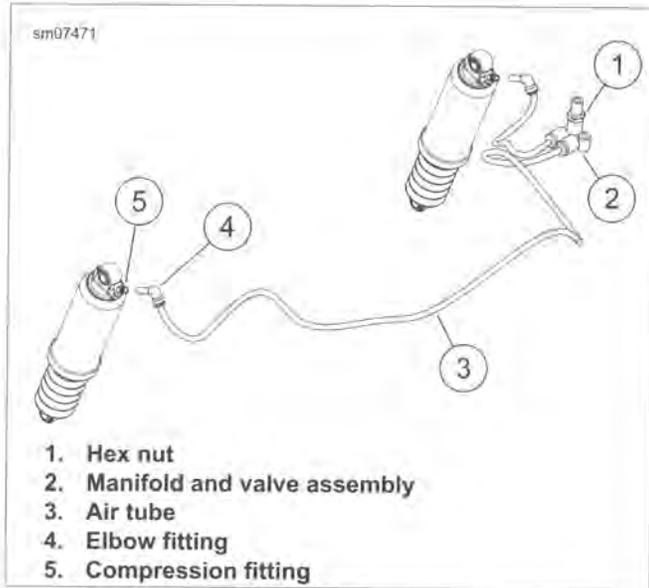

Figure 2-75. Rear Air Suspension System
1. See Figure 2-75. Remove elbow fitting (4) from compression fitting (5).
2. If necessary, remove elbow fitting (4) from air tube.
3. Remove compression fitting (5) from shock absorber.
2. See Figure 2-75. Remove hex nut (1).
3. Remove air inlet manifold and valve assembly (2).
5. Install the manifold and valve assembly. Secure with hex nut (1). Tighten to 40-50 in-lbs (4.5-5.6 Nm).